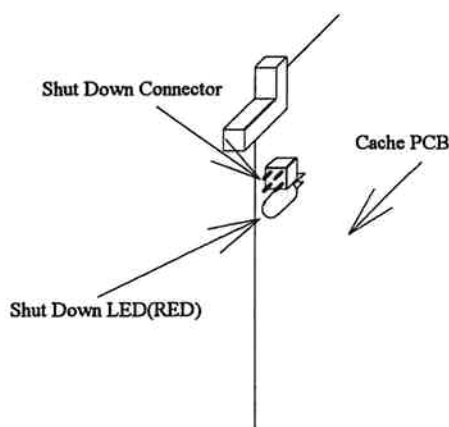

Fig. 3.4.1.3.2-5 Location of the Shut Down LED
- a. While referring to Fig. 3.4.1.3.2-5 and Table 3.4.1.3.2-5, check the Shut Down LED on the Cache PCB. See "Connection of Shut Down Jumper (INST03-2600)" if the Shut Down LED is not on.